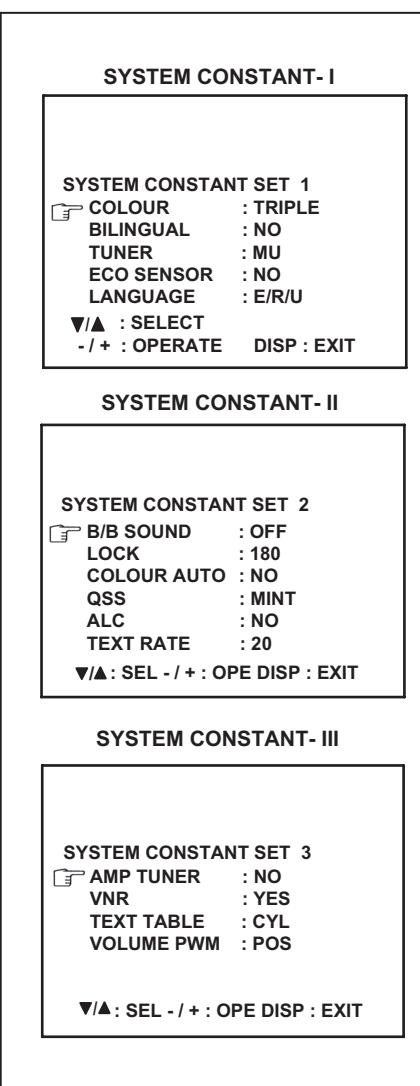

Fig.2
- (3) While the SERVICE MENU is displayed, again press the [DISPLAY] key and [PICTURE MODE] key simultaneously, and the SYSTEM CONSTANT SET screen of Fig. 2 will be displayed.
- (4) Check the setting values of the SYSTEM CONSTANT SETTING. If the value is different, select the setting item with the [MENU ▲/▼] key, and set the correct value with the [MENU - / +] key.
- (5) Press the [DISPLAY] key twice, and return to the normal screen.